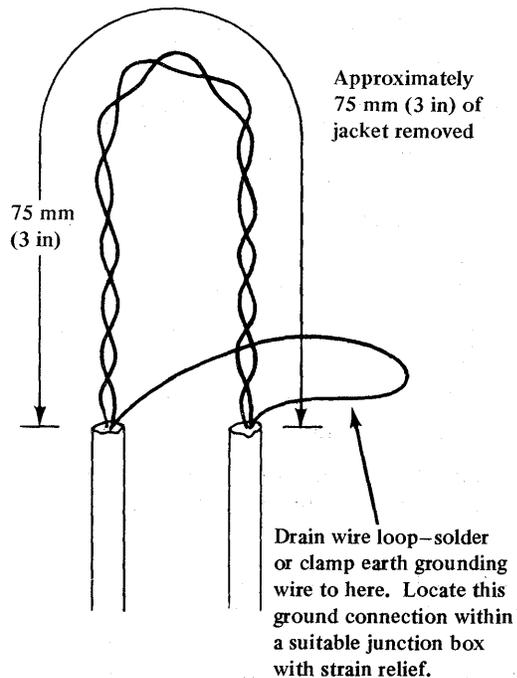

Figure 3-7. Grounding of loop cables between buildings
- ( ) The loop cable must be grounded at each building entrance. To ground the loop cable, refer to Figure 3-7 for instructions.